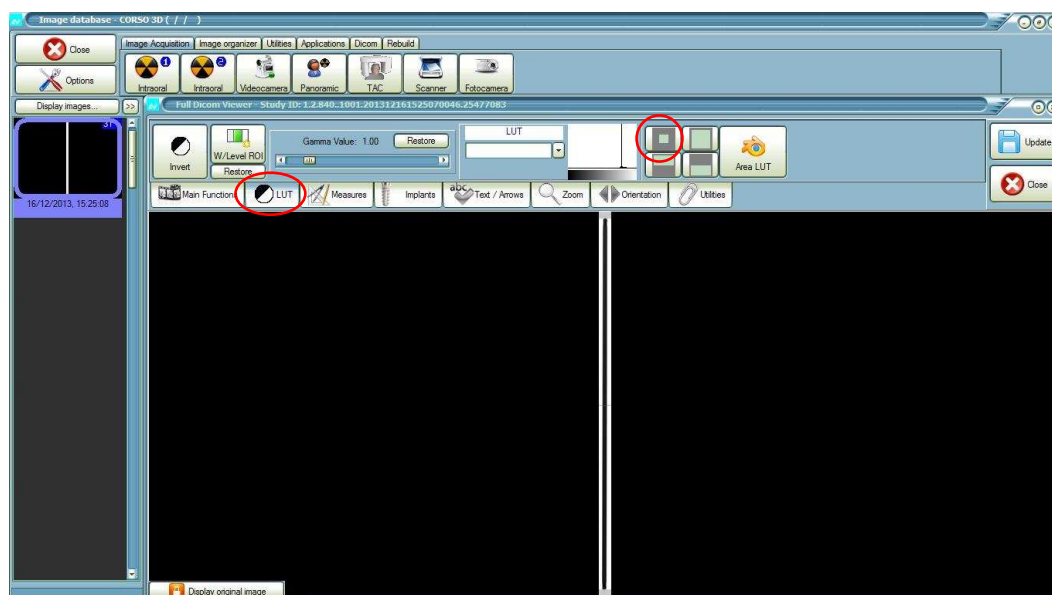
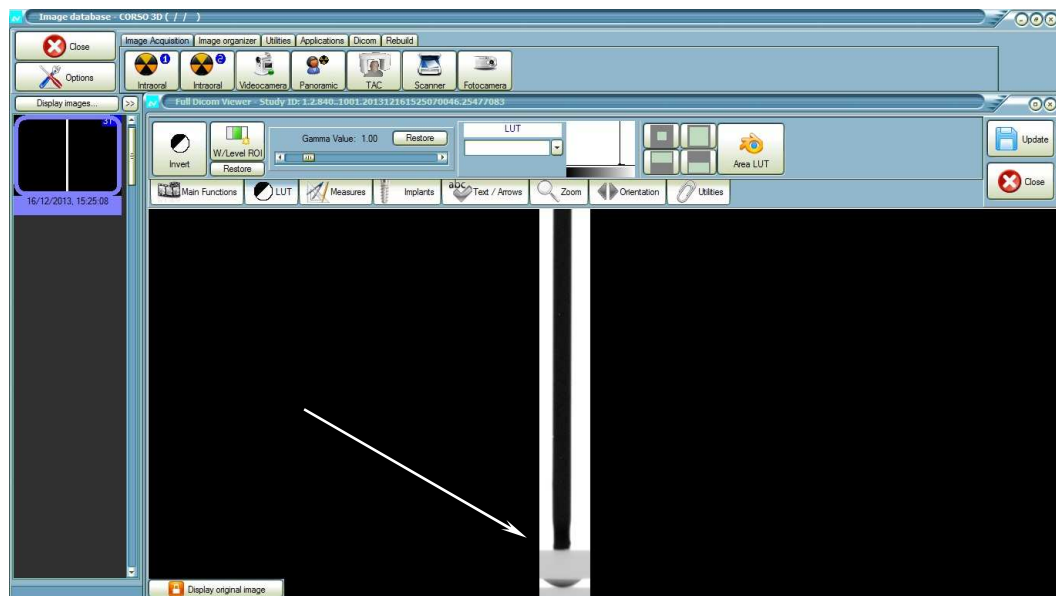

Figure 7-12
Figure 7-13
- 41.** On the "LUT" option, select button "  " (Figure 7-12) to improve the image contrast and brightness.
- 42.** Check if in the obtained narrow image the projection of the slit of the centering tool is vertical and centered with the arc (Figure 7-12 and Figure 7-13).